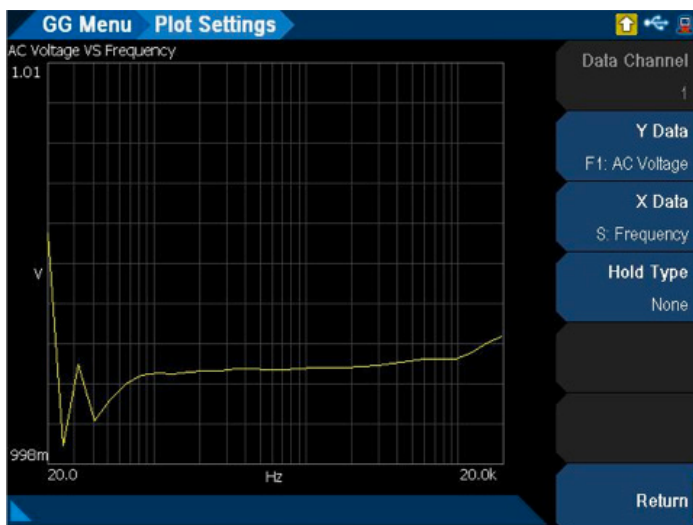

Figure 4. AC voltage vs. frequency
- Refer to Figures 4 to 7 for results.